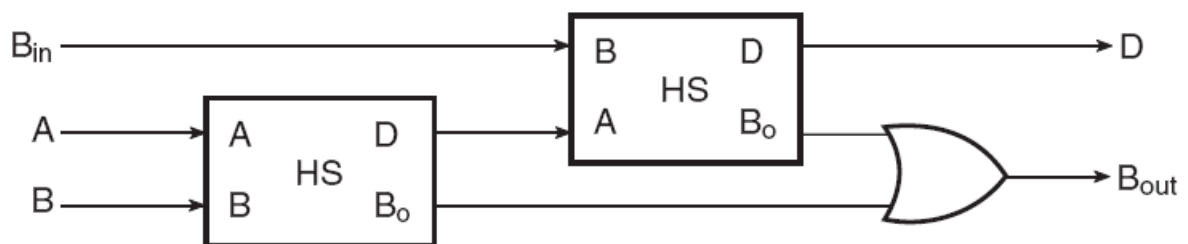

Fig 3.5
3.2.4 Full Subtractor A full subtractor performs subtraction operation on three bits, There are two outputs, namely the DIFFERENCE output D and the BORROW output Bo. The BORROW output bit tells whether the minuend bit needs to borrow a '1' from the next possible higher minuend bit. Figure 3.5 shows the truth table of a full subtractor.